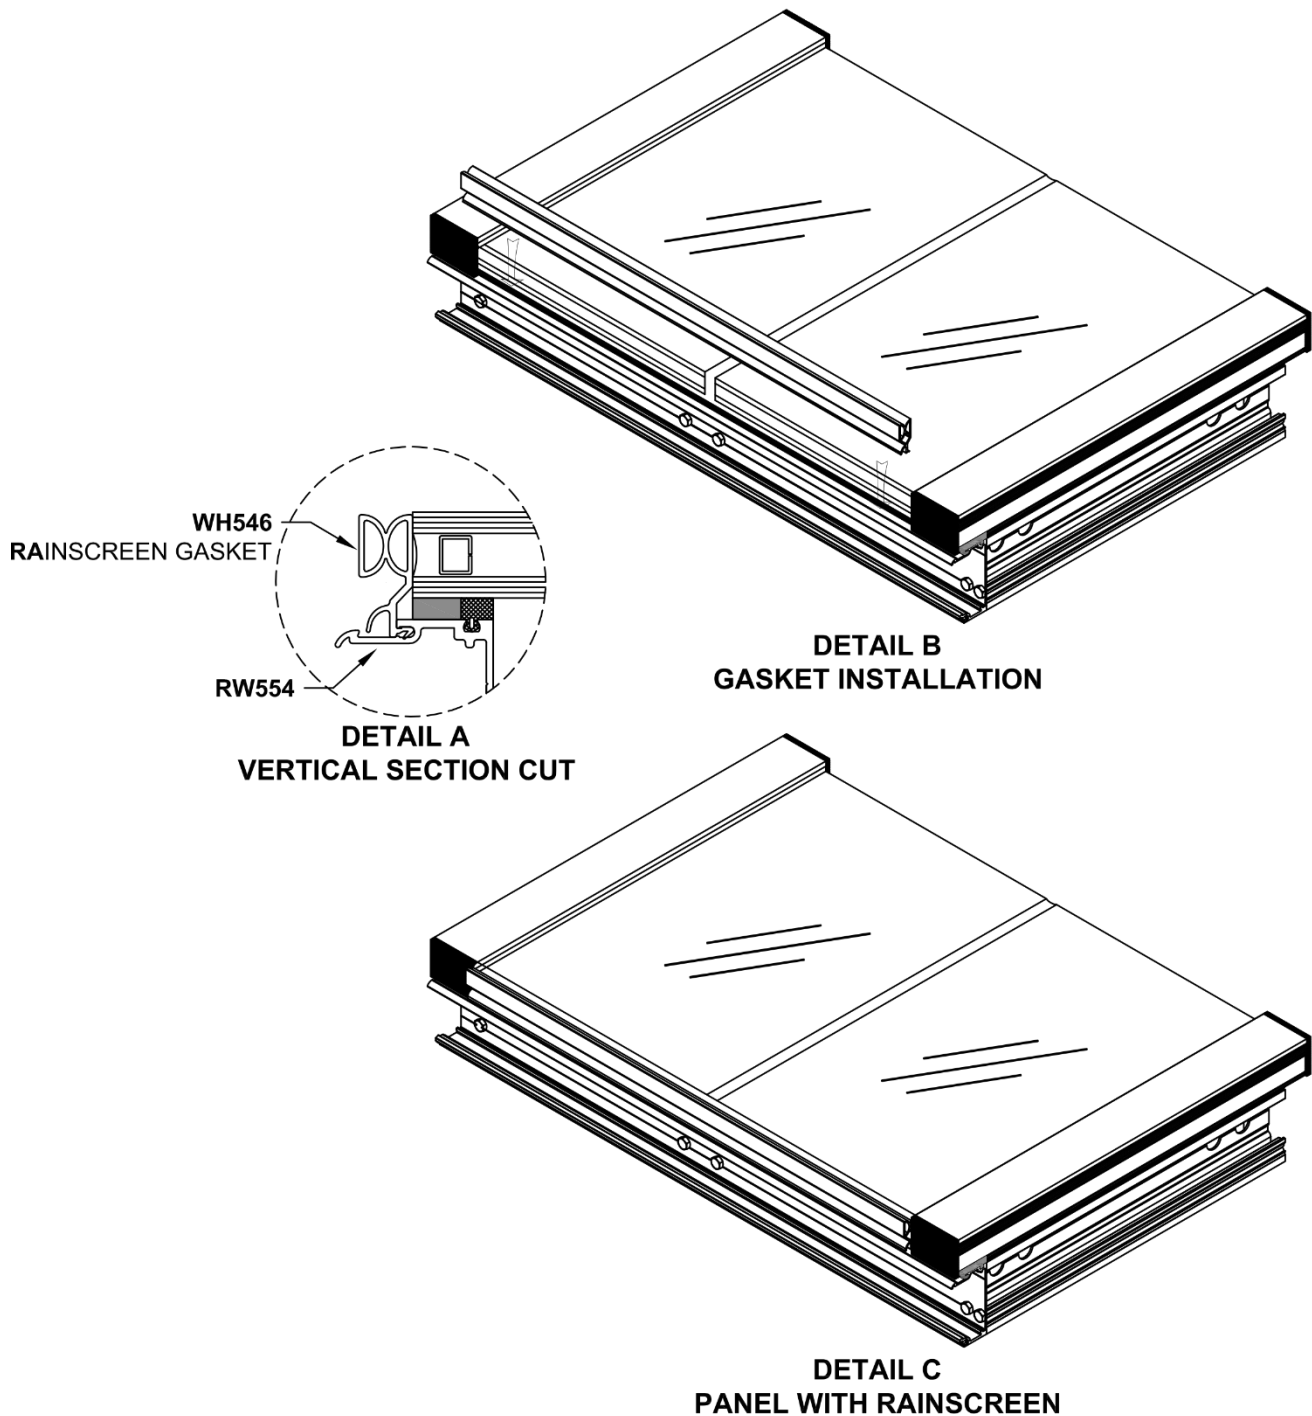

Figure 59: SSG Rainscreen Gasket Installation and Panel Completion
16.5.11 Using a small amount of Sealant at the top and bottom, install into the Vertical's reglet, as shown in *Figure 59*.